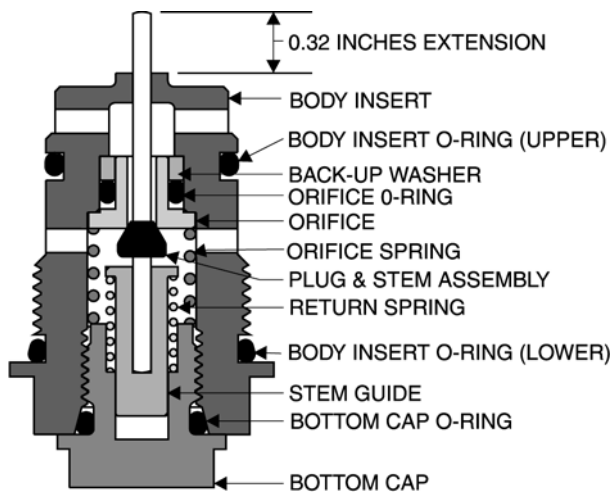
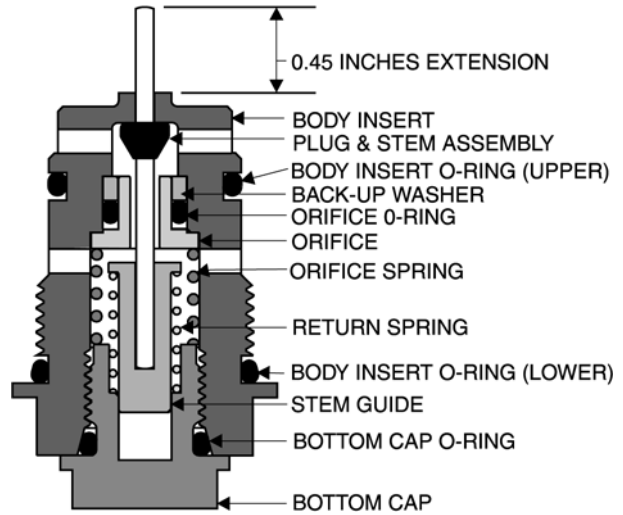

Figure 20
Figure 22
- 3. CONTROL ACTION:** Inspect to make sure the Body Insert Assembly (Cartridge) is in the correct operational mode. Remove the Body Insert Assembly and measure the stem extension from the Body Insert. (Refer to the Maintenance section of this manual - Figure 20 & Figure 22, page 9.)
7. Refer to Figure 20 & 21. Stack the following parts on the bottom cap in the order shown in the drawing:
7. Refer to Figure 22 & 23. Stack the following parts on the
NOTE: The plug on the Stem will be ABOVE the Orifice Assembly for a Back Pressure or Relief Mode (refer to Figure 22).
The plug will be BELOW the Orifice for the Pressure Reducing Mode (refer to Figure 20).
- The Series 20H and 20HS Pilots in back pressure mode require a delrin orifice and all stainless steel stem/plug in the Body Insert (Cartridge). Assemble the orifice assembly the same way you would the Back Pressure Body Insert (Cartridge) with the stainless steel orifice and stainless/nitrile stem/plug assembly. (Refer to Figure 22 & Figure 28).